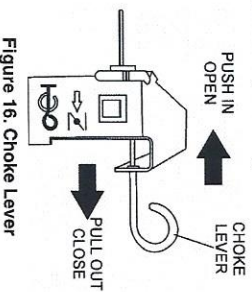

Figure 16. Choke Lever
2. Place the choke lever (Figure 16) in the **CLOSED** position if starting a cold engine.
3. Place the choke lever (Figure 16) in the **OPEN** position if starting a warm engine or the temperature is warm.
6. If the engine has started slowly return the choke lever (Figure 16) to the **OPEN** position. If the engine has not started repeat steps 1 through 6.